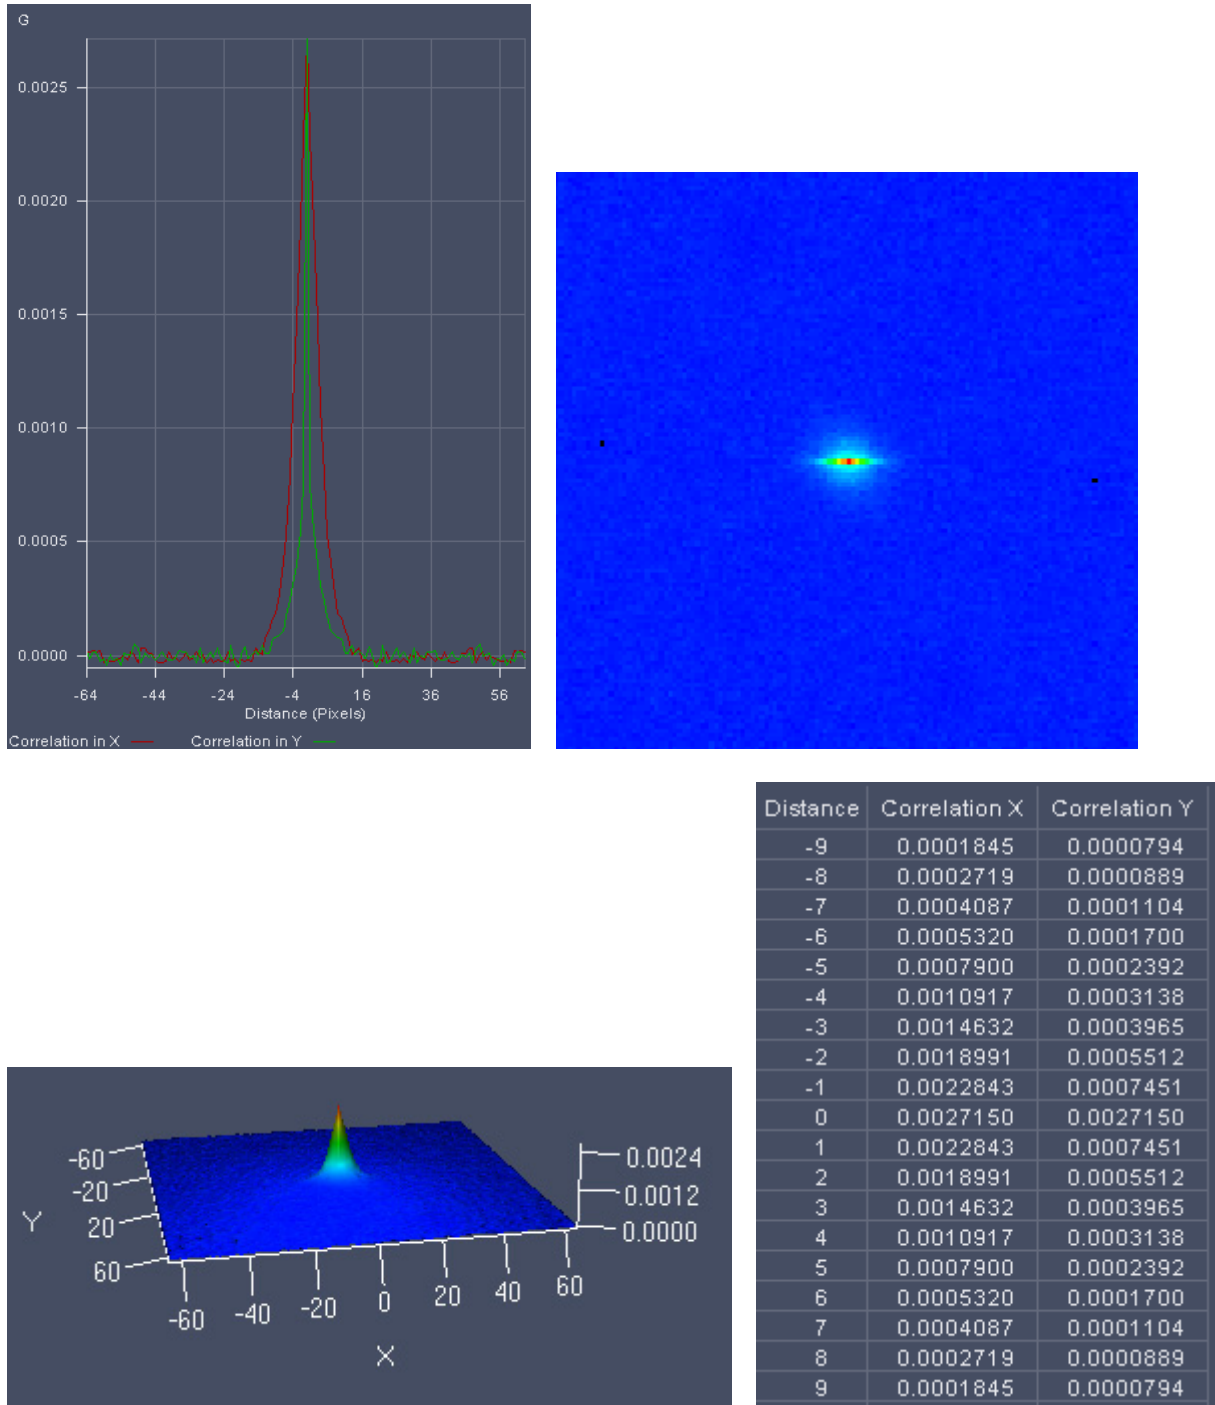

Fig. 289 Correlation displayed clockwise as Diagram, Image, Table and 2.5 D
2.5 D will display the correlation function and the fit / residuals if activated as pseudo 3D images (Fig. 289).